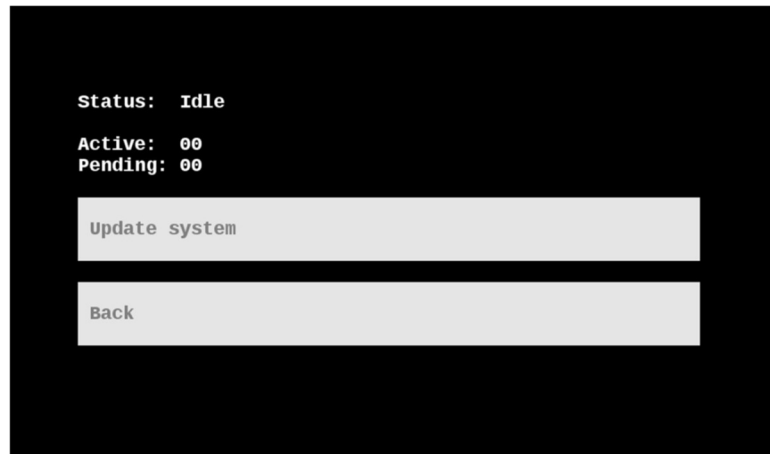

Figure 26: Fail-safe GUI CMS Update Page
- a. Check that the uploaded CSDB in the “System software” field is correct (Figure 26).